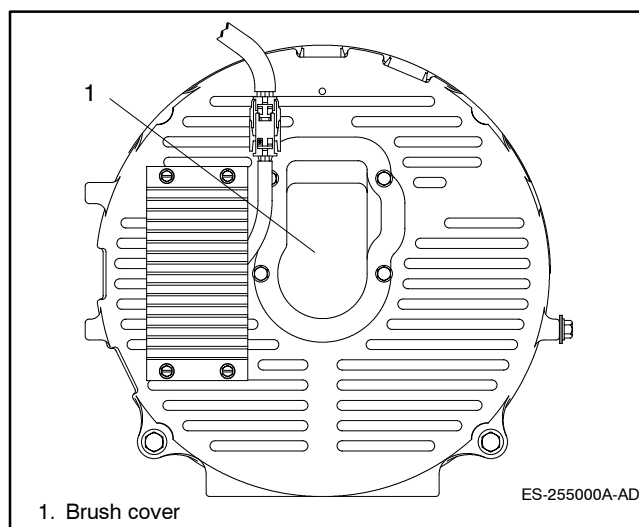

Figure 6-4 Generator End Bracket
10. Remove brush cover from end bracket by removing four mounting screws. See Figure 6-4.